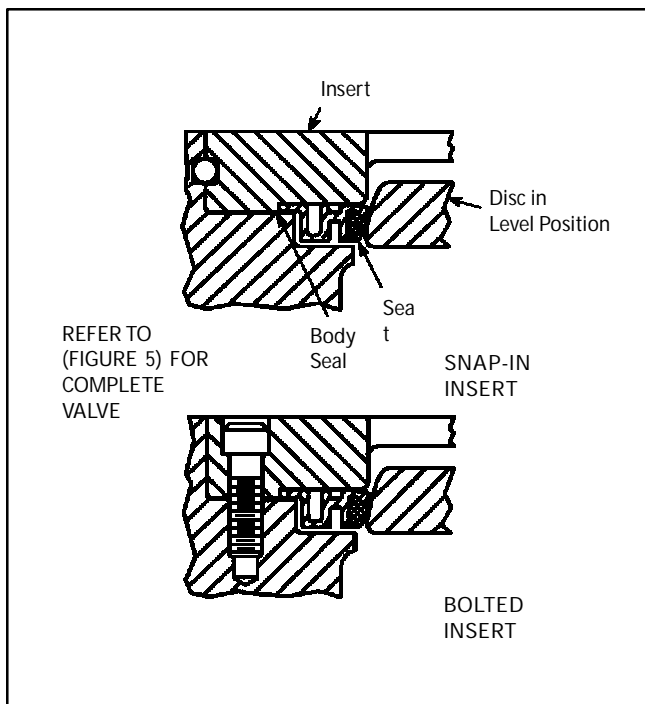

Figure 7
9. A body seal (40) is required between the seat tail and body as shown in (Figure 7). The valve uses a graphite type gasket. This is installed in accordance with the following steps: